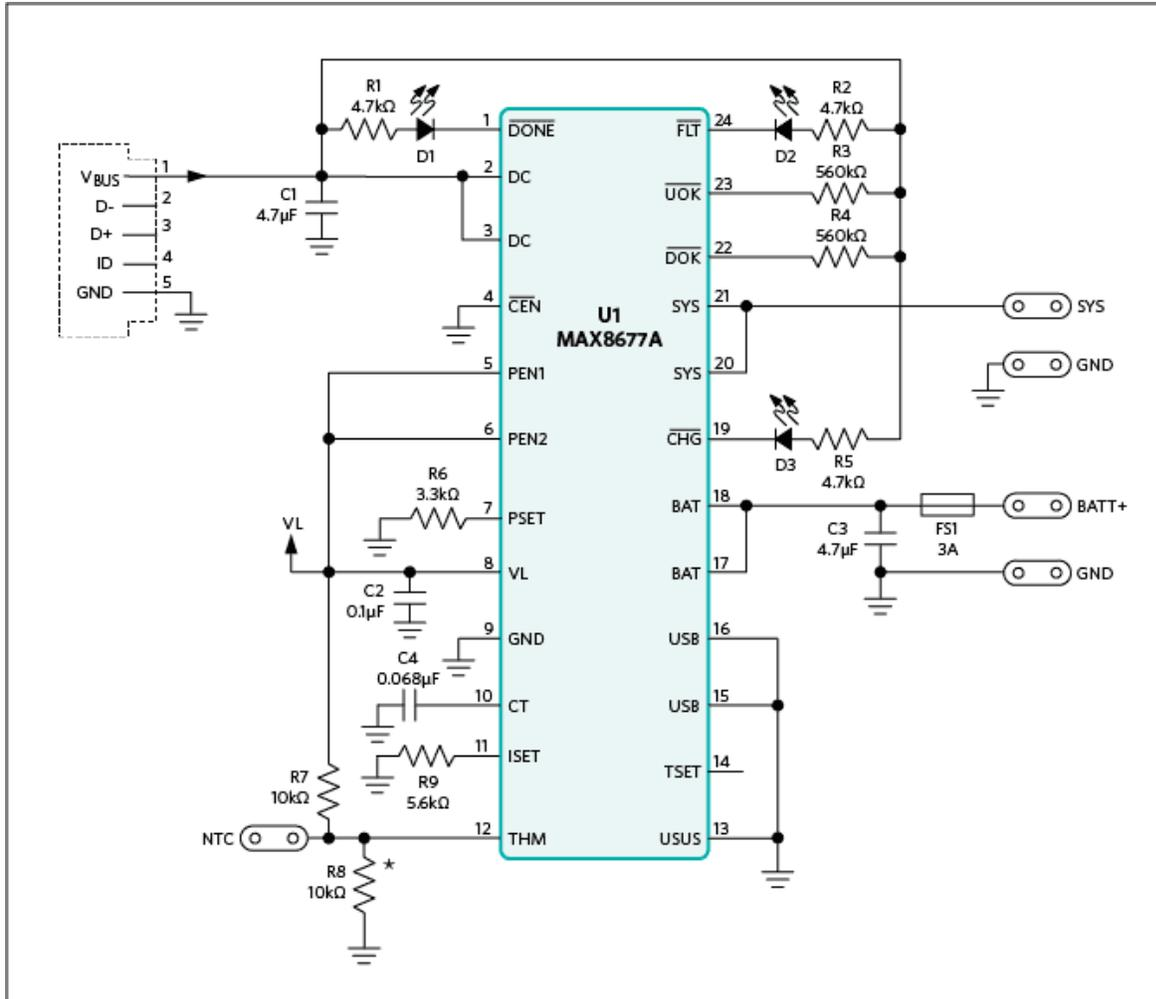

Figure 4. The complete charger circuit consists mainly of the MAX8677A and a mini USB connector.
For the charger circuit in this application note (**Figure 4**), we use the DC input, which gives us greater flexibility in setting the various limits. The operating voltage at the input is between 4.1V to 6.6V. If the voltage becomes too high, the MAX8677A turns off the input to prevent it from overheating. The IC can survive voltage spikes up to a maximum of 14V.
Referring back to Figure 4, when an NTC thermistor is used, it should be connected between the THM pin and ground (via the BAT- connection). A resistor (R7) is also connected between the THM pin and a reference voltage (VL), which creates a potential divider. The value of the resistor is chosen so that it has the same value as the NTC thermistor at a temperature of +25°C. The voltage at the THM pin at +25°C will be equal to 0.5 VL. When the temperature rises or falls, the resistance of the NTC thermistor falls or rises, as will the voltage at the THM pin. The device will only charge when this voltage is between 0.28 VL and 0.74 VL. With contemporary NTC thermistors, this corresponds to a temperature between 0°C and 50°C. When no NTC thermistor is available, you should add R8, which causes the voltage at the THM pin to be 0.5 VL.
A simple fuse (shown in Figure 4 as FS1, which is a surface-mount-device, or SMD, fuse on the PCB) offers sufficient protection from overloading, which means that separated cells are perfectly usable. However, a fuse does not offer any protection against deep discharging. When these types of cells are discharged too much, it is possible to damage them. This can happen when an ohmic load, such as a small incandescent light bulb, is attached for too long. However, most devices will stop working once the supply voltage has dropped below a certain value, which stops the cell from discharging further. Therefore, whether or not a fuse offers enough protection depends very much on the type of device that is connected.